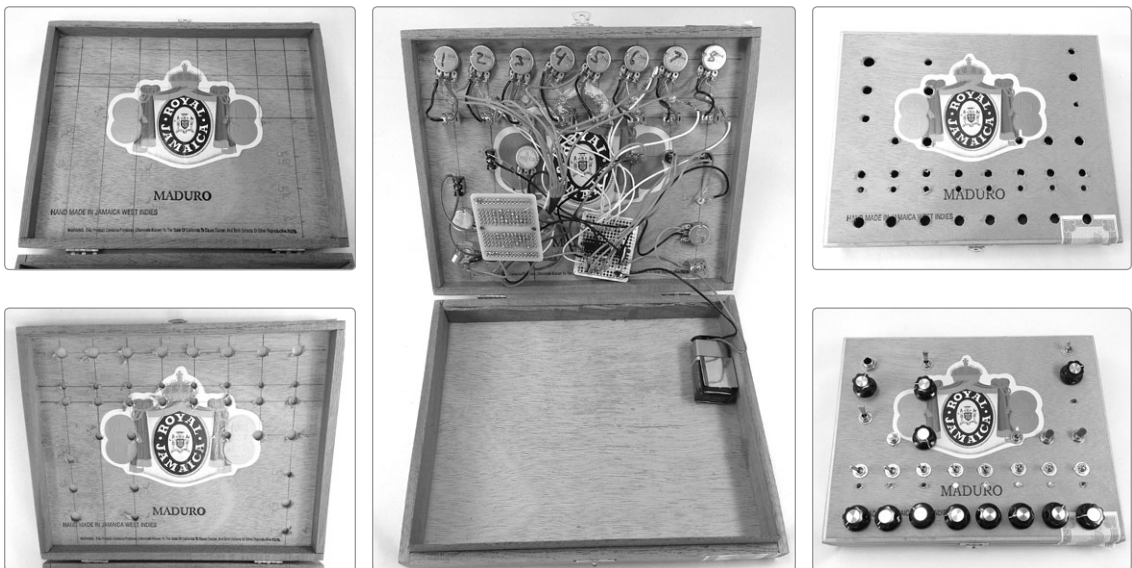

FIGURE 16-24: A few process shots of the enclosure build
- ▶ Ask yourself what looks good, what will be most playable, and what will work best with the circuit. Figure 16-24 shows a cigar box that's about 9×7 inches and just over $1/2$ inch deep. In my opinion, these are ideal dimensions: the enclosure is portable, sits well on a table or lap, and has plenty of room to house everything without risking shorts and pinched wires. Plus, you can place the controls close enough together that it's easy to play live.
- ▶ Sketch your button layout and then mock it up using some spare parts or paper cutouts. When you're happy, sketch the layout on the inside of the enclosure before you start drilling (see Figure 16-24). If you drill from the inside, your holes will be cleaner, and the exterior top of the Bleepbox will be unmarred. But there's a downside. When you sketch your layout on the underside of the panel like this, you're forced to pull a Ginger Rogers: you've gotta do everything Fred Astaire does, but backward and in high heels. Make a sketch in advance, double-check everything, and constantly ask yourself, "Am I about to accidentally drill this whole layout as a mirror image or upside down?"